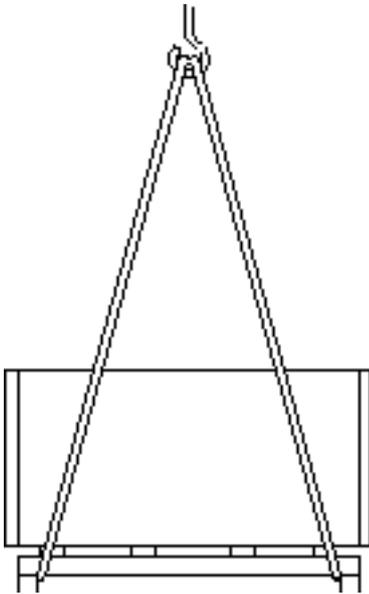

Fig. 9
1. ➤ Attach ropes, belts or multiple-point suspension gear to the pallet as per Fig. 9.